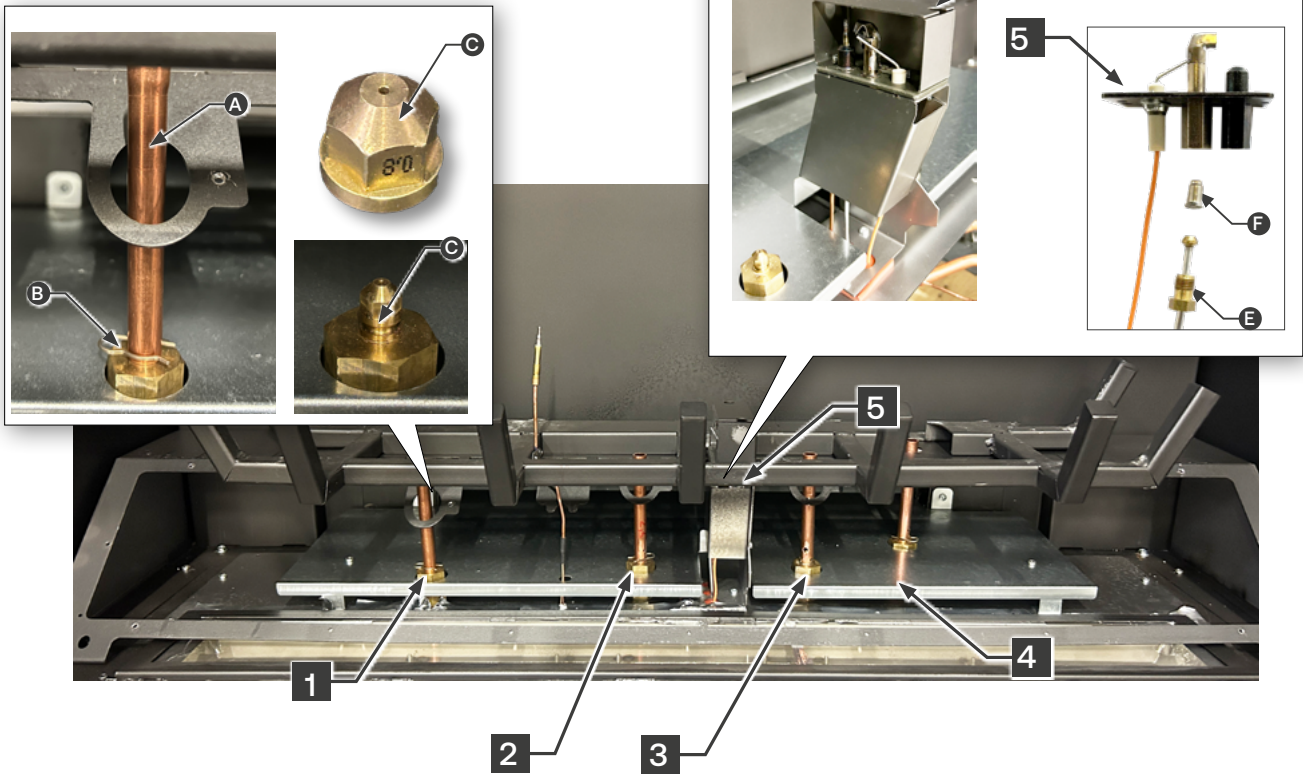

Fig. 2: Burner assemblies
3.2.1 Replacing the Injector Assemblies (Fig. 2)
3.2.2 Replacing the Pilot Burner Orifice (Fig. 2)
- Remove two Torx 20 screws (E). Retain for reinstallation
- Gently pull up the pilot burner unit (5) from the console.
- Release the coupling screw (F) from the burner pipe.
- Using a size 11 wrench, remove NG orifice marked 018N (G) - and discard.
- Set the coupling screw (F) back in place on the burner pipe.
- Reinstall pilot burner unit (5) back on the console using two retained screws (E).